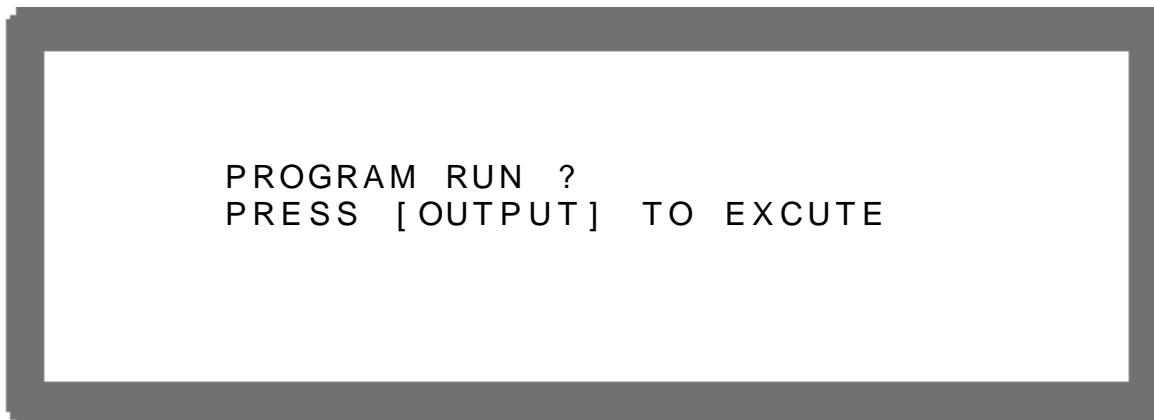

Figure 4-15
1. Press “” will prompt a confirmation page as Figure 4-15 shows.
1. Press “**OUTPUT**” in Program page (Figure 4-3) or Sequence page (Figure 4-8) will prompt a confirmation page as Figure 4-15 shows.
1. Press “**OUTPUT**” will appear a confirmation window as Figure 4-15 shows.